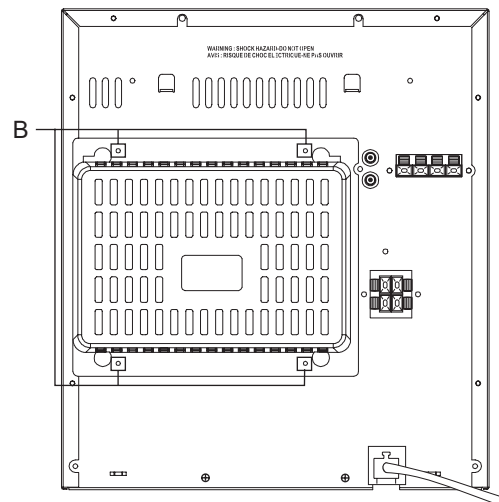

Fig.3
3.1.3 Replacing the heat sink cover (See Fig.3)